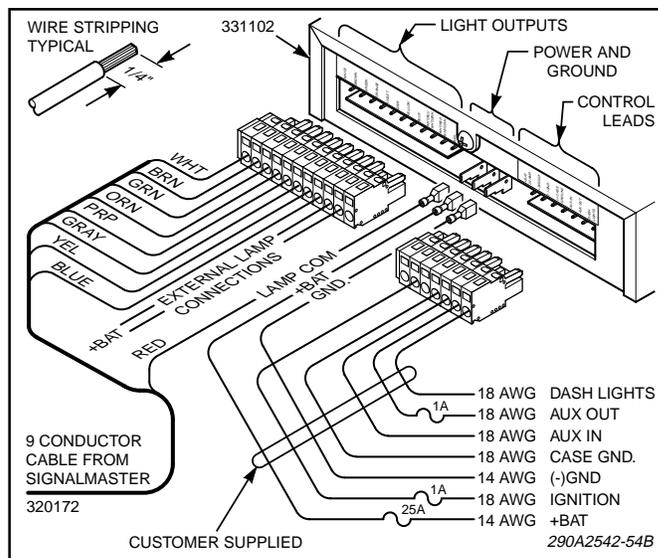

Figure 2.
The control unit is supplied with a seven-position connector, an eleven-position connector, and insulated spade connectors (0.250" (1) and 0.187" (2)) to perform the electrical installation. User-supplied, 14-gauge red and black wires are required for the (+) BAT and (-) GND connections. User-supplied, 18-gauge red and green wires are required for the (+) IGNITION and (-) CASE GROUND connections on the seven-position connector. In addition, user-supplied 18-gauge wire is used for the AUX IN, AUX OUT, and DASH LIGHTS connections. Using figure 2 as a guide, complete this portion of the installation as follows:
To avoid damage and ensure proper operation, the red and black wires MUST be installed as shown in figure 2.
a. Strip 1/4" of insulation off of each 14AWG red and black wire. See figure 2. Crimp a 0.187" wide spade receptacle on the red wire. Crimp the 0.250" wide spade receptacle on the black wire.
b. Connect the red and black 14-gauge terminated wires to the +BAT and GND positions as shown in figure 2.
d. Connect the 18-gauge red (IGNITION) and green (CASE GROUND) wires to the connector as shown in figures 2 and 3.
The AUX OUT connection will provide a ground to activate a ground-activated relay (user-supplied) when the AUX switch is operated. To perform the wiring for these connections, proceed as follows (see figures 2 and 3):
See figures 2 and 3. Connect a user-supplied 18-gauge wire to the seven-position connector's DASH LIGHTS connection. Route the wire to the vehicle instrument light circuit (if backlight dimming is required) or the accessory terminal of the ignition switch and terminate as required.
d. Connect the remaining SignalMaster wires to the eleven-position connector as shown in figures 2 and 3.
e. If applicable, connect the external lamp ground cables to the connector (positions 9 and 10) as shown in figures 2 and 3. Each of these two positions provides an alternating ground signal to activate external lamps.